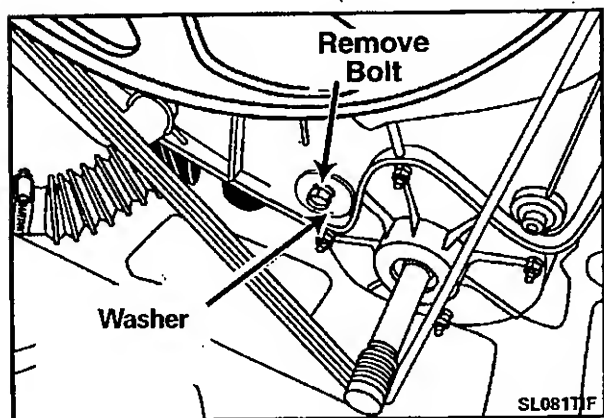

Figure 8-2
3. From the rear, locate and remove the motor mounting bolt securing the washer to the outer tub (*Figure 8-2*).